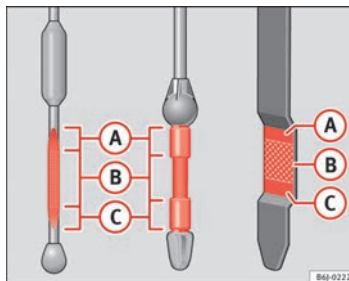

Fig. 158 Engine oil dipstick
- Then pull it out once more and check the oil level ⇒ Fig. 158. Top up with engine oil if necessary.